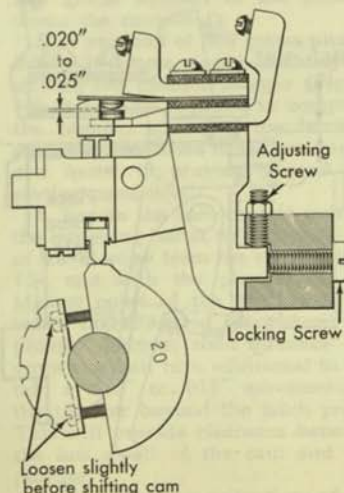

Figure 8. Normally Closed Plunger Circuit Breaker, Adjustment 3
3. Locate the cam contact unit on the mounting bar at its extreme limit of travel away from the cam (Figure 8). With the plunger on the highest